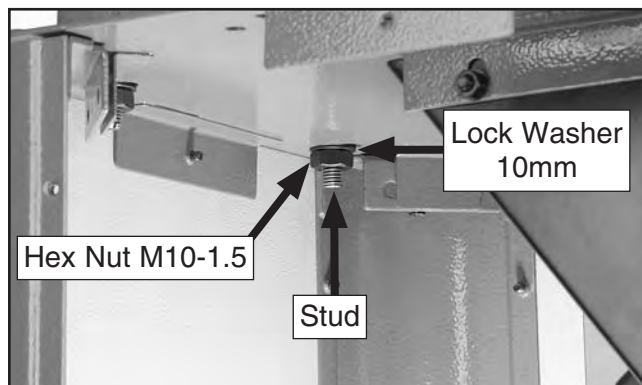

Figure 17. Jointer secured to cabinet.
13. Fasten the jointer table assembly to the cabinet with the (3) M10-1.5 hex nuts and 10mm lock washers, as shown in **Figure 17**.